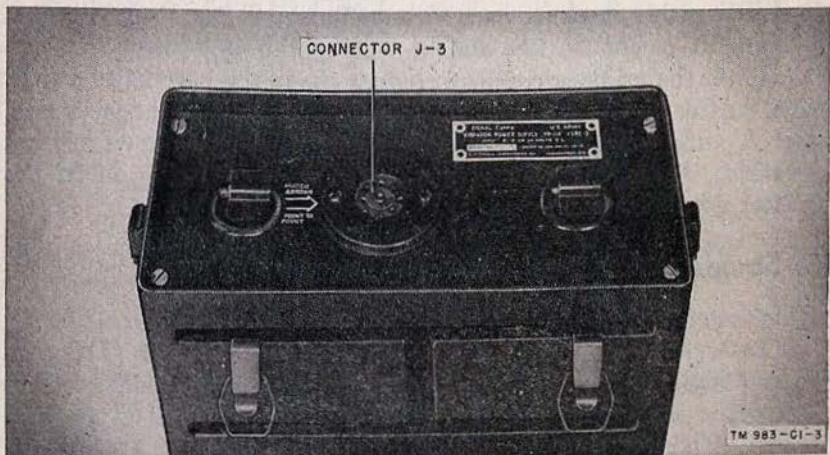

Figure 6. Vibrator power supply panel, showing connector
a. Vibrator Power Supply * * * output connections (fig. 6). Input connections are made by means of a cable permanently attached to two banana plugs mounted on the inside of the case. These plugs engage * * * case are assembled.
Delete figure 6 and substitute the following: